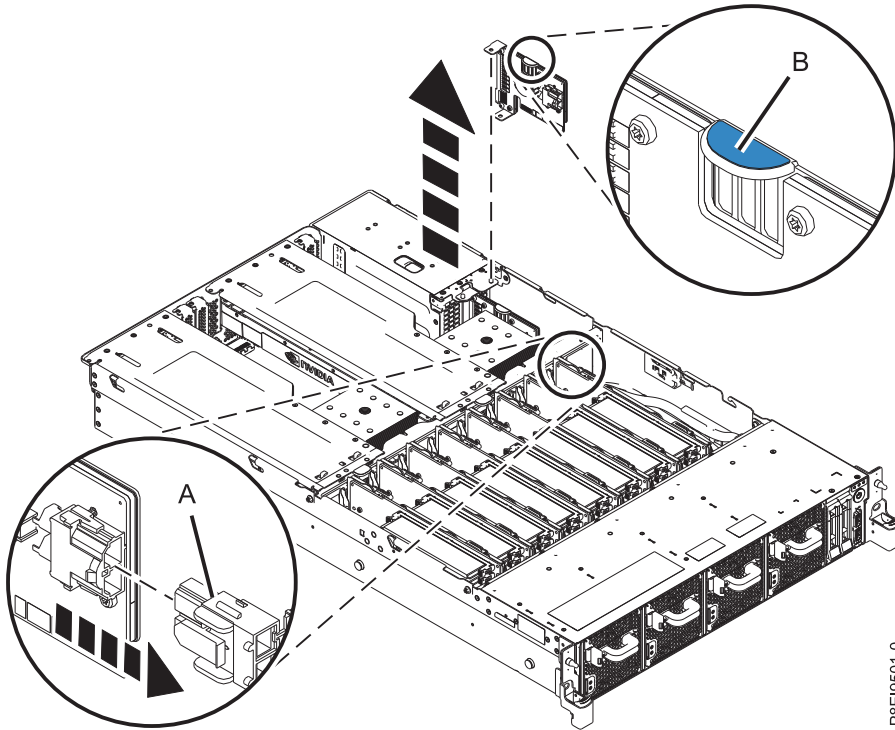

Figure 47. Removing a power riser from the system
- a. If applicable, disconnect the fan power cable from the power riser (A) in Figure 47 on page 48, by pressing the latch release lever with your thumb.
- b. Pull out the power riser from the slot by holding the blue tab. See (B) in Figure 47 on page 48.